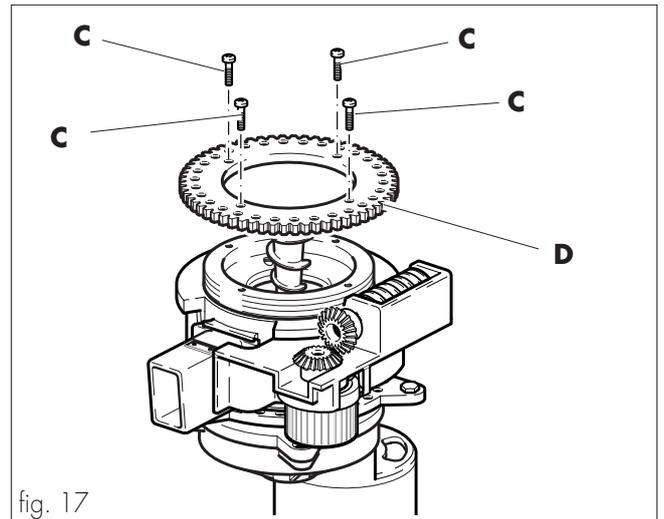

fig. 17
- Firstly remove the four screws (ref. **C**, fig. 17), then the geared wheel (ref. **D**, fig. 17).